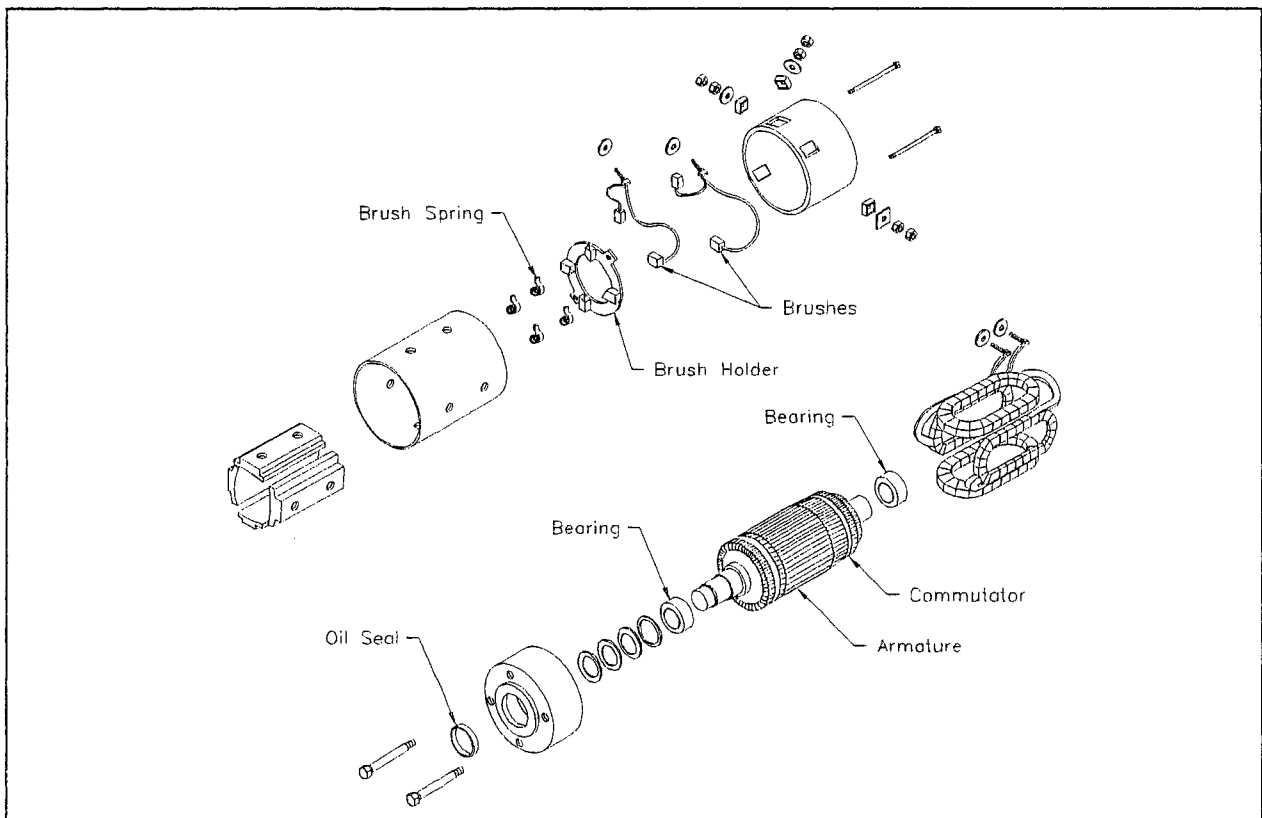

Figure 3-27
- Remove the motor end cover revealing the brush holder and brushes. Disassemble the brush studs from the end cover (see figure 3-27).